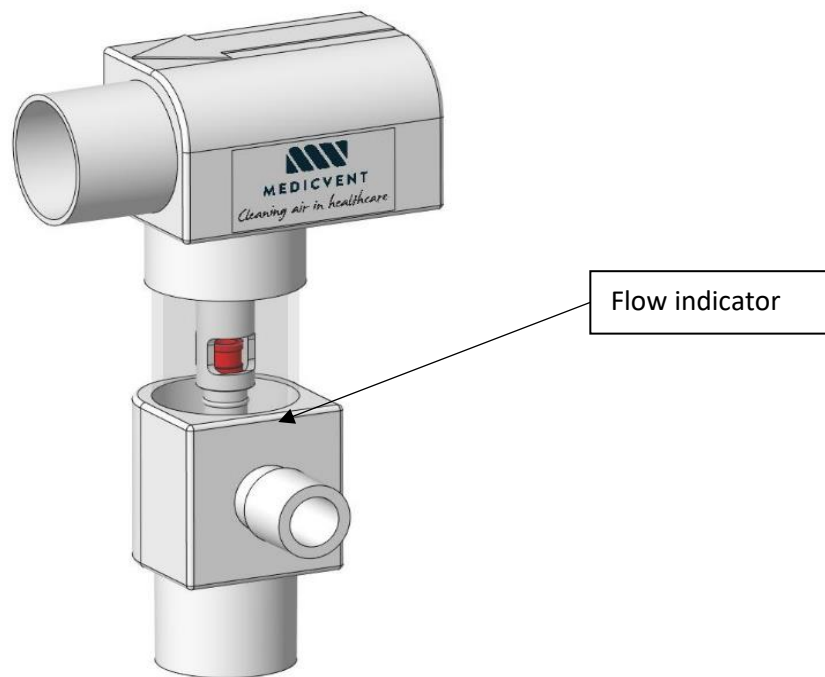

Figure 4
4. The red flow indication must be lifted and disappear from sight before the outlet can be used. That will indicate that the outlet is ready to use, see figure 4.